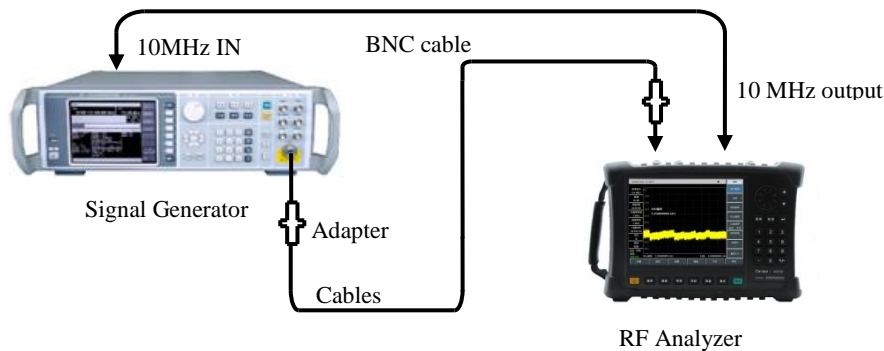

Figure 16-19 Settings for Test of Input Attenuator Conversion Uncertainty
- a) Connect the test equipment according to Figure 16-19, and the instrument is used to provide reference frequencies for the composite signal generator.